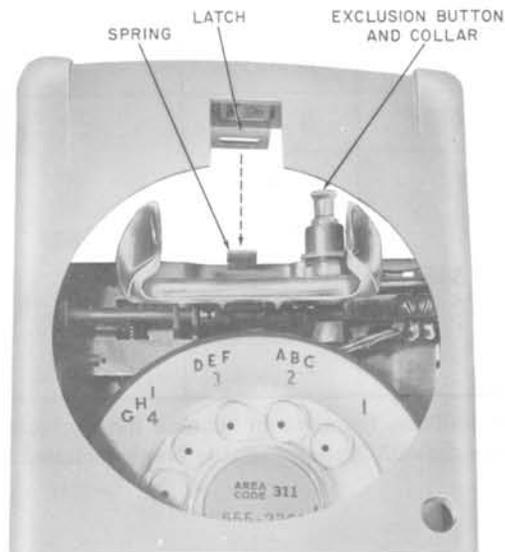

Fig. 6—Replacing Wall Set Housing
- (1) Slip housing over handset hook and dial engaging latch-spring assembly (Fig. 6).
- (2) Tilt housing approximately 20 degrees from the wall surface and slide along surface to engage latch. Align exclusion switch plunger with the opening provided.
- (3) Lower housing toward dial surface. Align the upper reinforcing ribs with the slots cut into the baseplate. The collar around